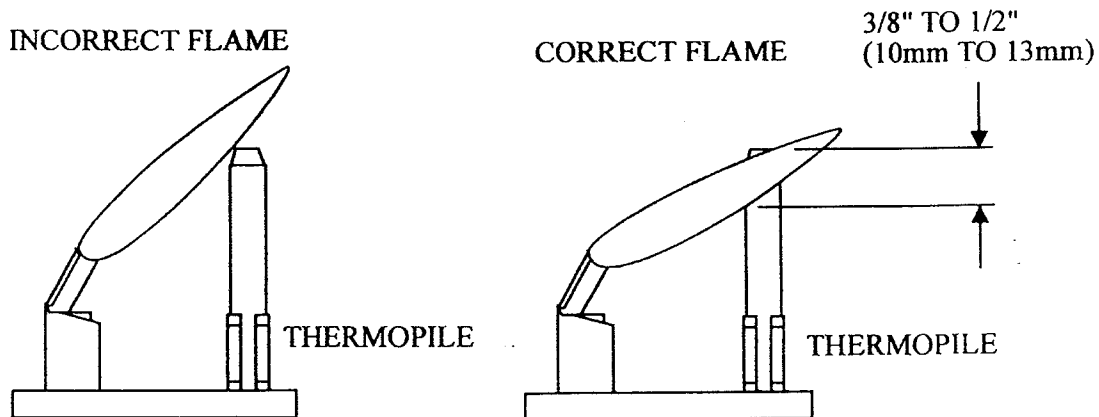

Figure 16
For proper operation, the pilot and main burner flames must be steady and not lifting off or floating. The top $3/8"$ - $1/2"$ (10-13mm) of the thermopile should be engulfed by the pilot flame. The pilot flame adjustment should be performed by a qualified service person only. To adjust the pilot flame, turn the pilot adjustment screw counterclockwise ← to increase, and clockwise → to decrease the flame. Ensure that the pilot flame completely engulfs the thermopile, as shown in Figure 16.
1. Weak or improperly located pilot flame	1. Adjust and clean pilot. The flame must impinge on or engulf the thermopile, as shown in Figure 16.